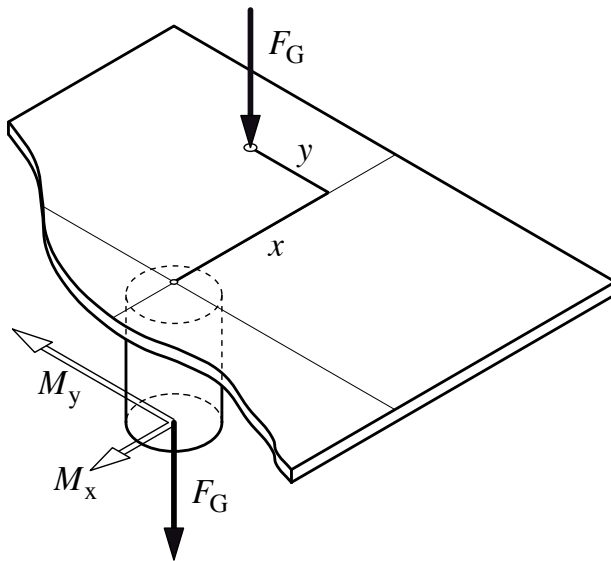

Figure 3-4: Effective forces in eccentric loading
- **Eccentricity:** A custom weighing platform has to be designed so that its center of gravity lies at the load application point or as close as possible. Failing to do that might lead to an additional bending force on the load application point, which can damage the weigh module over the long term (See Figure 3-4). This effect can only be understood after a high number of load cycles, when the weigh module gets broken due to fatigue failure. To avoid that, concentric weighing platforms have to be used as much as possible